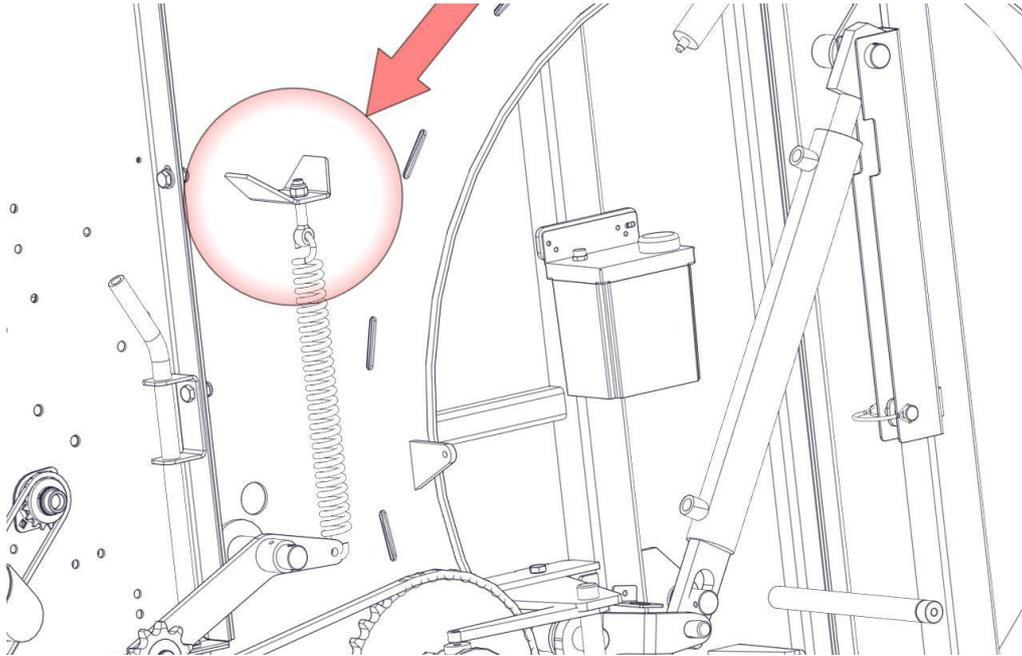

Figure 14. Adjusting the automatic chain tensioners
The procedure of checking and adjusting the chain tension (**Fig. 14**):
- Adjust the chain tension using the nut (**Fig. 14**);